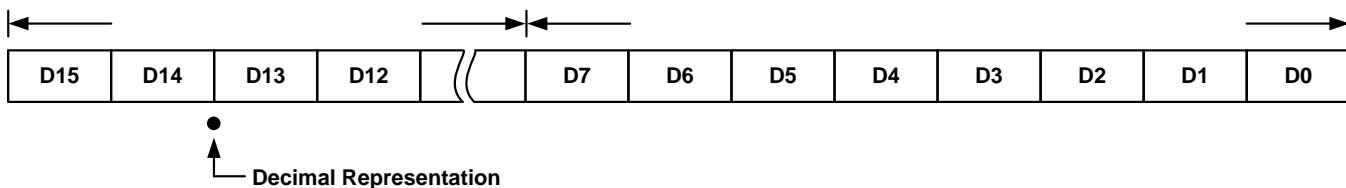

Figure 27. Binary Representation Of Gain Correction Factor
5. **LUT Data Entry:** Each GCF needs to be converted from decimal to a 16 bit binary word representing a decimal number between 0 and 4. An example illustrating this binary representation of the decimal number is shown in Figure 27. The conversion equation that scales the GCF into the 16 bit binary $\text{GCF}_{\text{BINARY}}$ is shown in Equation 2. Once the conversion has been calculated for each temperature the values are programmed
into the appropriate registers in the LUT. The MSB of the LUT value consists of bits D15 to D8 as shown in Figure 27, the LSB are bits D7 to D0.